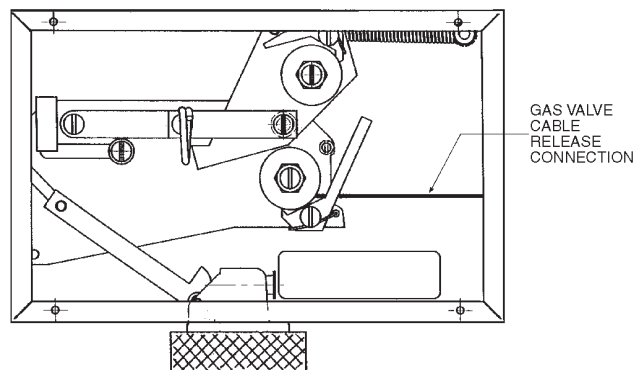

Figure 4-19. Gas Valve Line Termination.
- a 1/2 in. hex wrench on the gas valve ratchet wheel. The ratchet wheel will be ratcheted in a clockwise direction until the gas valve is fully open. See Instruction Sheet, Part No. 550571, included in gas valve shipping assembly, for detailed information. Secure the gas valve cover plate to the gas valve box with the four (4) screws provided. The gas valve line is now in a set position. See **Figure 4-19**.